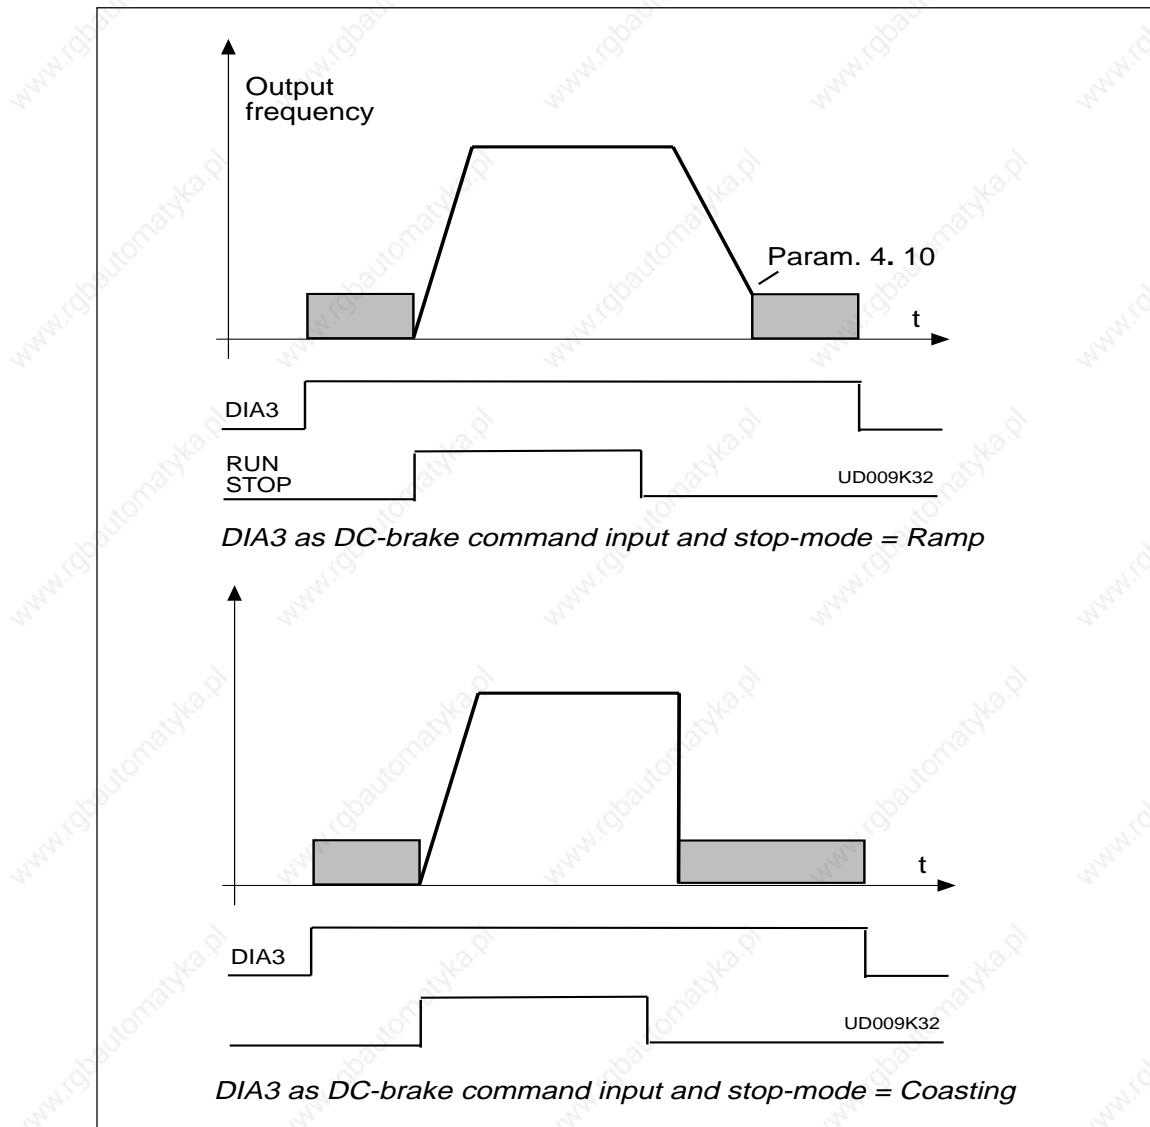

Figure 3.5-4 DIA3 as DC-brake command input:
- 9:** DC-braking command      contact closed = In Stop mode, the DC-braking operates until the contact is opened, see figure 3.5-4.